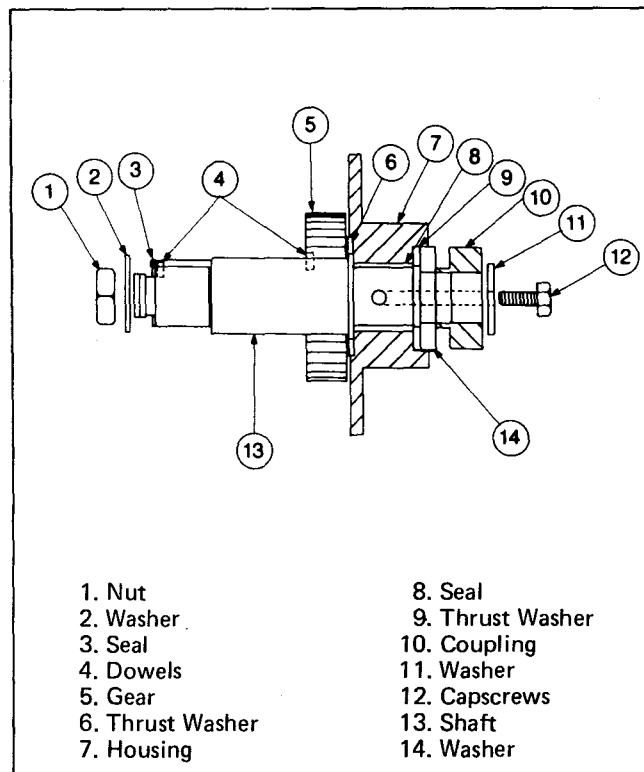

Fig. 9-2, (N10911). Dowel pin shaft accessory drive
1. Remove excess oil from dowel hole. Install dowel (4, Fig. 9-2) in gear mounting diameter of shaft, rounded end in shaft (13).
2. Align gear (5) keyway with dowel (4), install gear on shaft, rear face of gear contacting shoulder on shaft.
3. Place front thrust washer (6) over rear of shaft, bearing face of washer contacting back of gear. Inside diameter of thrust washer over outside diameter of trunnion on shaft.
5. Install shaft, gear and thrust washer assembly (13, 5 and 6) through drive housing (7) from front side. Steel backing of thrust washer (6) contacting drive housing at front of bushing bore.
6. Place rear thrust washer (9) on drive shaft, steel backing of thrust washer facing front of drive shaft.
7. Install thrust washer (14) on drive shaft, front of thrust washer contacting bearing face of rear thrust washer (9).
8. Install coupling (10), trunnion end to front of shaft, retain coupling with washer (11) and capscrew (12). Tighten capscrew 30 to 35 ft-lbs [41 to 47 N•m] torque.